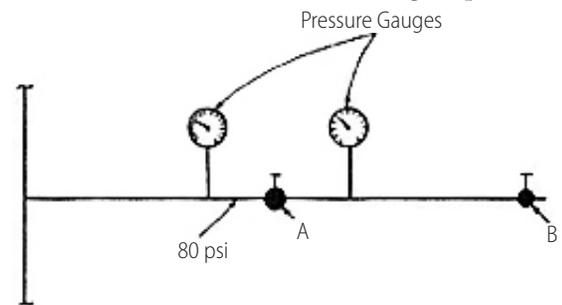

Figure 6-12 Operation of a Pressure-Reducing Valve
Automatic regulation of pressure in a water distribution system is a relatively simple process. Consider the setup shown in Figure 6-12, which will be used to demonstrate how a pressure-regulating valve functions. A globe valve (A) represents the pressure-regulating valve. Globe valve B represents the outlet at the fixture or equipment. Assume valves A and B are closed, and a pressure of 80 psi exists at the inlet of valve A. The objective is to maintain a steady, reduced pressure of 40 psi at B. Opening valve A slowly will admit water to the branch, and the pressure will rise. If valve A is then closed when the branch pressure reaches 40 psi, that pressure will be maintained as long as valve B remains closed and no leaks are present. As B is gradually opened to allow the water to flow, however, the pressure in the branch will immediately start to drop.